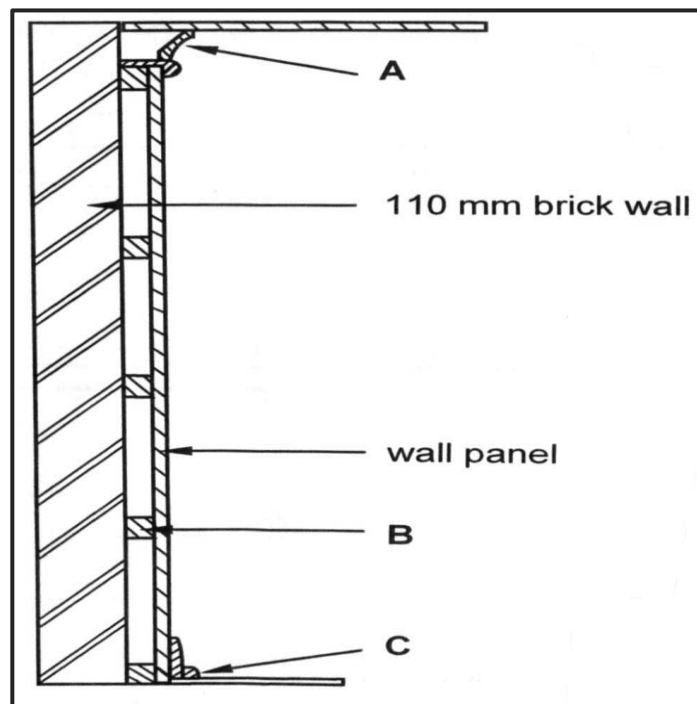

FIGURE 4.3
4.3 FIGURE 4.3 below shows a sectional view of a tongue and groove wall panel from the floor to the ceiling, fastened to a 110 mm thick wall. Study the picture and answer the questions that follow.